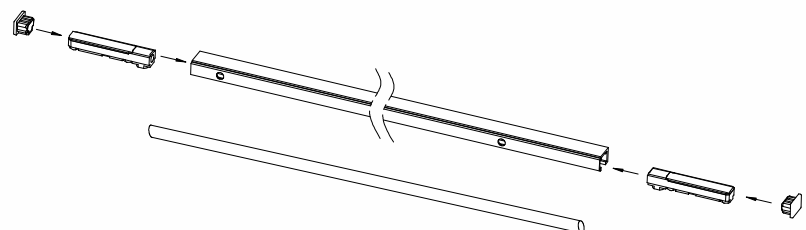

FIGURE.12
- b- Mount stay arm gliders, upper stay arm connecting rod and guiding rail end caps in place as shown in Figure.12.